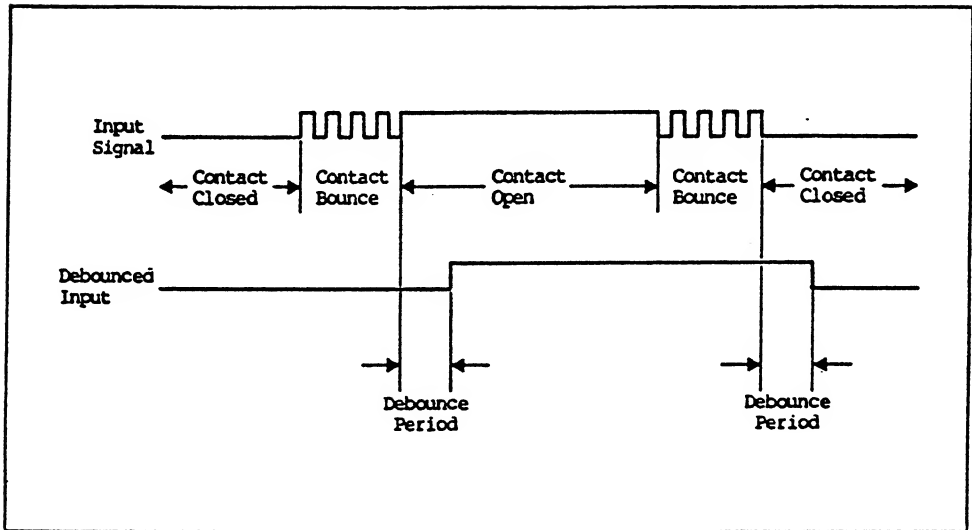

Figure 6k-3. Debouncer Operation
Figure 6k-3 illustrates debouncer operation. When a debounced input is selected, the input signal must remain stable longer than the debounce period before a new input level will be recognized. There are three debounce periods available: 4 ms, 20 ms, and 80 ms. The debounce period is selected by turning a switch.
- o First, each pair must consist of consecutive even and odd channels, corresponding to those selected on the function switch (Figure 6k-1).
- o Second, the channels must fall within the range set by the channel decade switches (Figure 6k-1). Note that these switches establish the hundreds and tens designations for a range of channels.